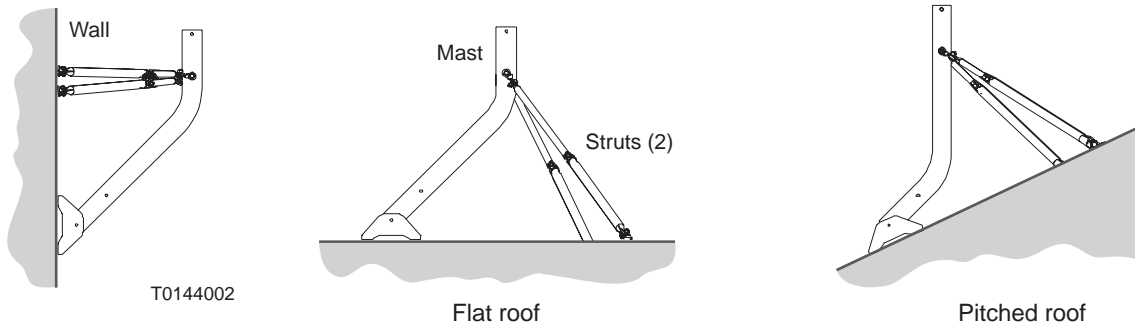

Figure 9: Tri-mast in various configurations
**Tri-mast (or other antenna mount)** Although the tri-mast is not part of the antenna kit, it is described here because it is the most commonly used mounting option for the AN8-074P Ka-band antenna. As shown in Figure 9, the tri-mast can be positioned in a number of configurations to adapt it for mounting onto surfaces of various angles. For other suitable antenna mounting options, see the HughesNet system *Antenna Site Preparation and Mount Installation Guide*, (1035678-0001).